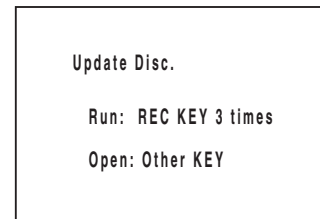

Fig. 3-1-3
- 2) Insert the firmware disc: The screen for verifying update will appear (Fig. 3-1-3).